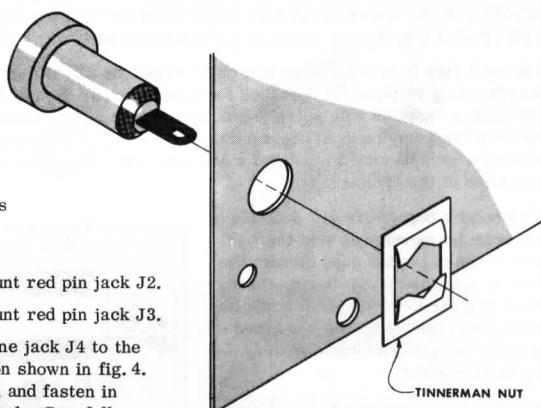
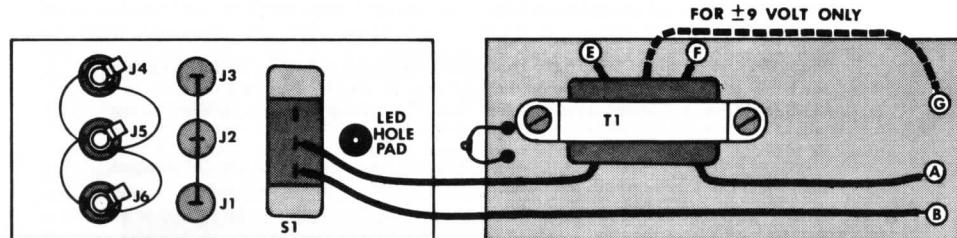

figure 3
figure 4
- () Solder the 3 3/4 inch primary lead to circuit board point "A" as shown in figure 4. Allow the center tap secondary lead and the shorter black primary lead to remain free. No connection will be made with these wires at this time.
- () Place a red pin jack (J1) in the hole provided as shown in figure 4 and fasten in place with a tinnerman nut as shown in detail figure 3. Press the tinnerman nut down firmly.
- () Mount the miniature phone jack J4 to front panel in the position shown in figure 4. Orient the jack as shown and fasten in place with the nut provided. Carefully tighten the nut.
() Using a 1-1/2 inch length of the bare wire provided make the common connections between pin jacks J1, J2 and J3, as shown in figure 4. Solder all connections.
() Using a 1 1/2 inch length of bare wire make the common connections between the top lugs of miniature phone jacks J4, J5 and J6, as shown in figure 4. Solder all connections.
() Using a 2 inch length of bare wire, make the common connections between the ground lugs of miniature phone jacks J4, J5 and J6, as shown in figure 4. Solder all connections.
() Using two 4-40 X 1/4 inch screws, two 4-40 nuts and two lock nuts, mount the slide switch S1 in the position shown in figure 4. Make sure that the points of the 4-40 nuts do not interfere with the travel of the slide inside the switch.
() Solder one end of the wire prepared in the previous step to the bottom terminal of S1 as shown in figure 4. In a later step this wire will connect to the circuit board.
() An insulating "dot" has been provided to prevent the leads of the Light Emitting Diode from shorting against the front panel. Remove this dot from its cardboard backing and apply to the rear of the front panel so that the hole in the dot is centered over the LED hole in the front panel. (see figures 4 and 6.)
- () Slide the second piece of this tubing over the length of insulated wire coming from the "on" side of S1. Slide the tubing up so that it completely covers the solder lug. Solder the free end of this wire to circuit board point "B" as shown in figure 4.